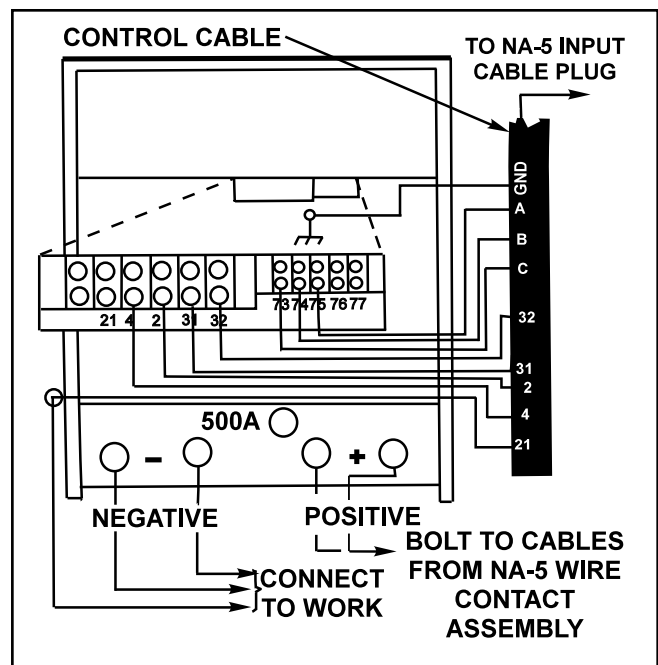

FIGURE C.2 - NA-5 Wire Feeder Connection to the IDEALARC DC-1000
- Connect the wire feeder control cable leads to the IDEALARC DC-1000 terminal strip as shown in Figure C.2.
7. Connect the welding cables as shown in Figure C.2.
NOTE: The connection diagram shown in Figure C.2 shows the electrode connected for positive polarity. To change polarity: